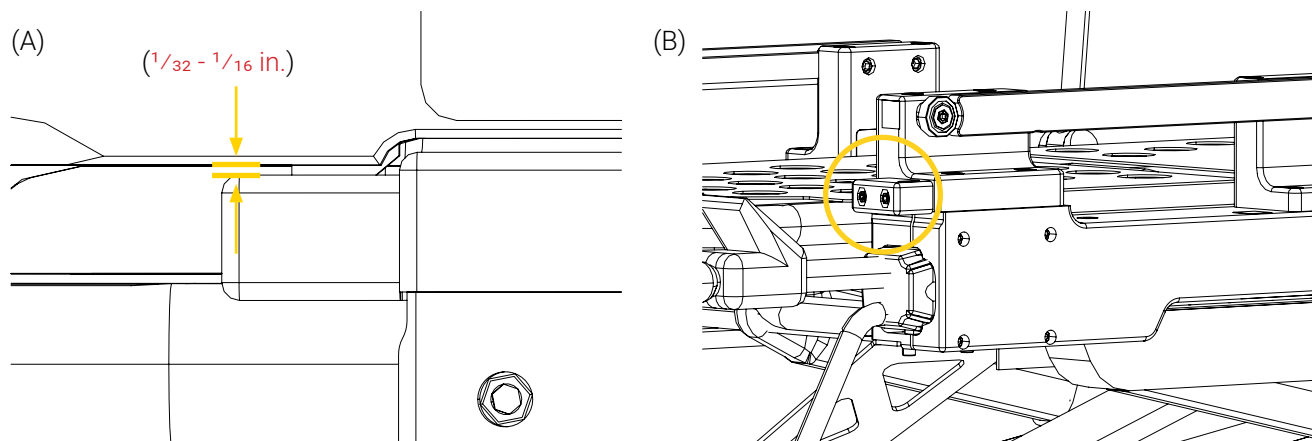

Figure 31: Tightening the rail system blocks
15. Tighten the remaining eight (8) screws of the rail system using an Allen key 3/16 in.
17. Leave a gap between $\frac{1}{32}$ and $\frac{1}{16}$ in. between the two (2) small blocks located at the front of the rail system and the inferior surface of the mobile structure (Figure 31 A).
18. Tighten the two (2) socket head screws on each block using an Allen key 5/32 in. (Figure 31 B).